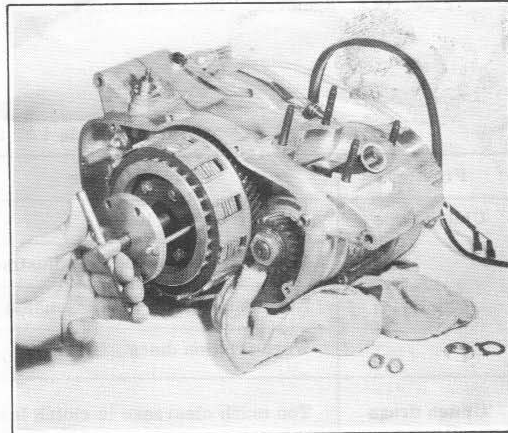

Figure 4.5. Removing Clutch Using Puller Tool
Remove two screws (8) so that a puller tool can be used in their place to pull clutch plate assembly from clutch shell assembly (13). The two screws should be directly opposite each other (180° apart) to accommodate tool. Install tool, Part No. 95960-52A, as shown in Figure 4.5 and pull clutch plate assembly off mainshaft.
Remove assembled clutch by sliding it off shaft. Note that, if assembly is tight on shaft, a puller tool can be used as shown in Figure 4.5.